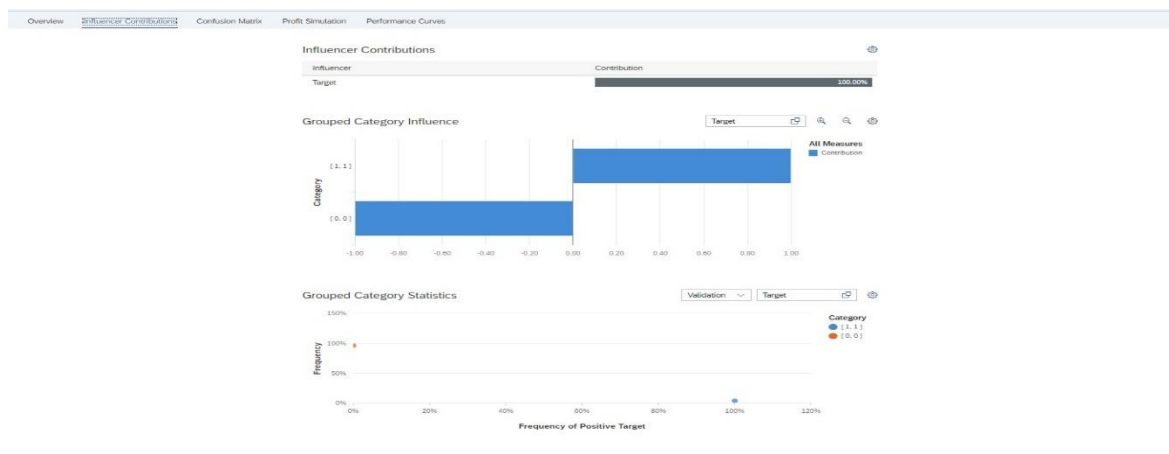

FIGURE 6: INFLUENCER CONTRIBUTION
- **Misleading Influencer Analysis:** Consequently, the "Key Influencer Analysis" (Figure 6) showed the Target variable itself as having 100% contribution, masking the actual operational parameters (like Tool wear [min], Torque [Nm], Temperature, etc.) that genuinely influence machine failure.